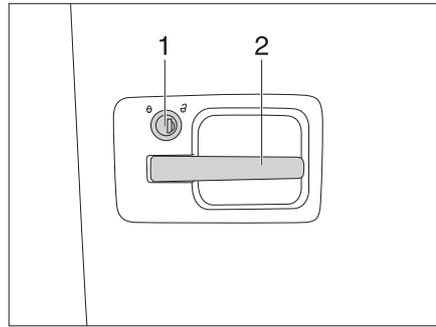
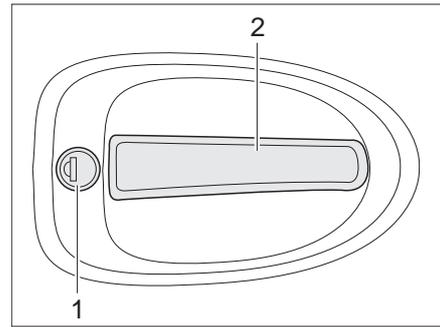

Fig. 19 Door lock, outside
Fig. 20 Door lock, outside
- Insert the key in the locking cylinder (Fig. 19,1 and Fig. 20,1) and turn clockwise until the door lock is unlatched.
- Pull on the handle (Fig. 19,2 and Fig. 20,2). The door is open.
- Insert the key in the locking cylinder (Fig. 19,1 and Fig. 20,1) and turn it anticlockwise until the door lock is engaged.